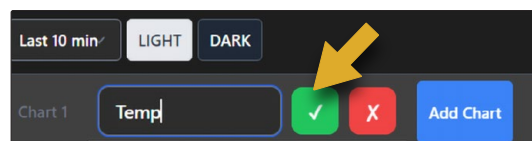

Figure 51
- b. Click the **Save**  button. See Figure 51.